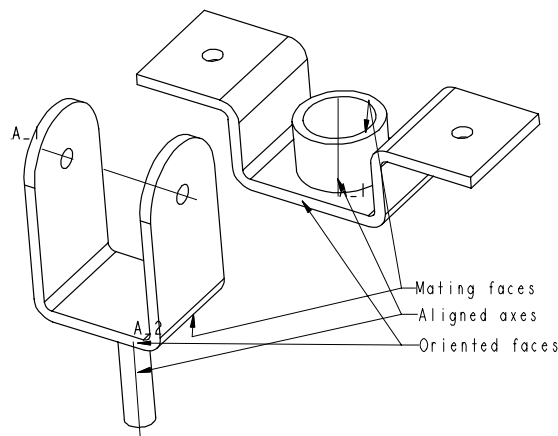

Figure 9-48 Constraints and the location to apply them
4. Select the upper face of the cylindrical feature as the first face to add the mate constraint and then select the bottom central horizontal face of the U-Support as the other mating face shown in Figure 9-48.
6. Select the axis of the Bracket to add the align constraint and then select the axis of the U-Support as shown in Figure 9-48.
7. Select the field in the **Offset** column. The field will be changed into a drop-down list. Select the **Oriented** option from the drop-down list and select the faces as shown in Figure 9-48.